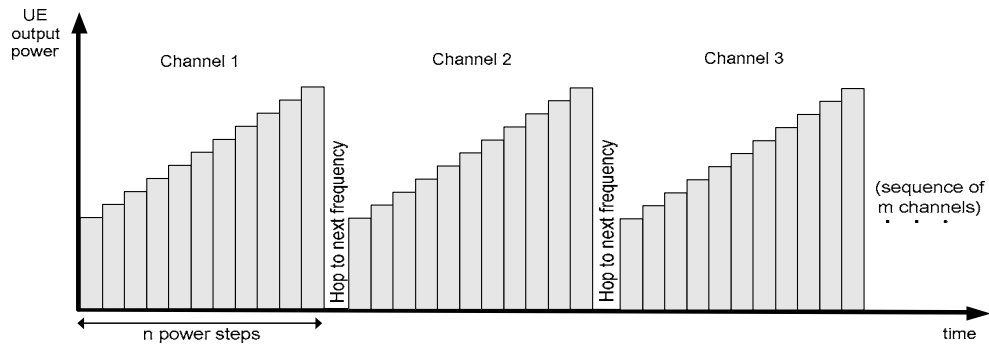

Fig. 1 TX calibration: mobile power settings
1. Stimulate the UE transmitter to change its power periodically as shown in Fig. 1 below. Start power: 0 dBm; increment: 2 dBm; DTX during one time period after the UE has reached +20 dBm (each 12th time period).
The first, non-editable *RF Generator* frequency is given by the common generator frequency defined via *Generator Settings – RF (TX) Frequency*. The generated power step sequence is analogous to Fig. 1 on p. 3.